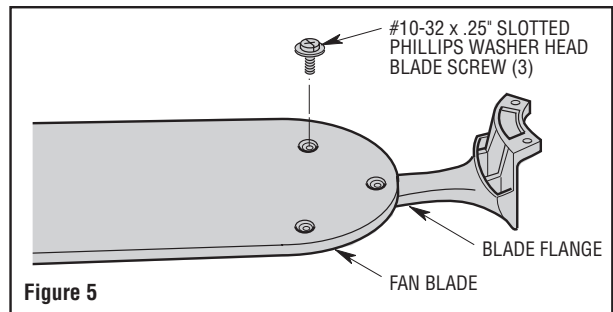

Figure 5
7. Mount blade flange to fan blade using three #10-32 x .25" slotted Phillips washer head screws (Figure 5).